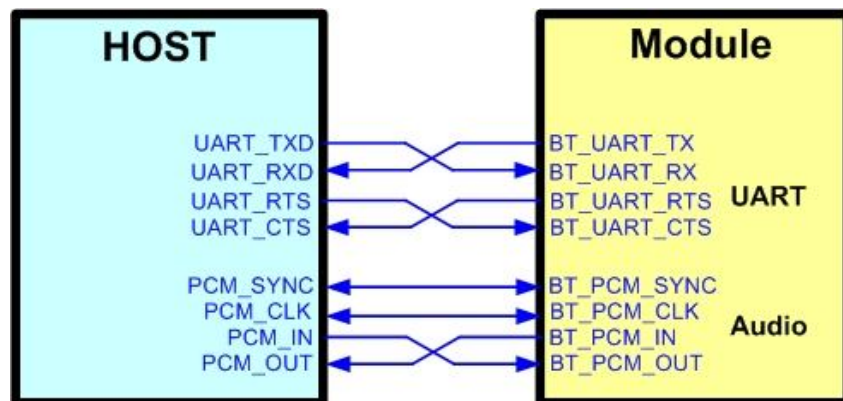

Figure3. Bluetooth verification connection interface to Host UART
- ❖ Refer to Figure3 UART pin definition connects the J1 interface of AP5256 evaluation board to Host UART control interface.